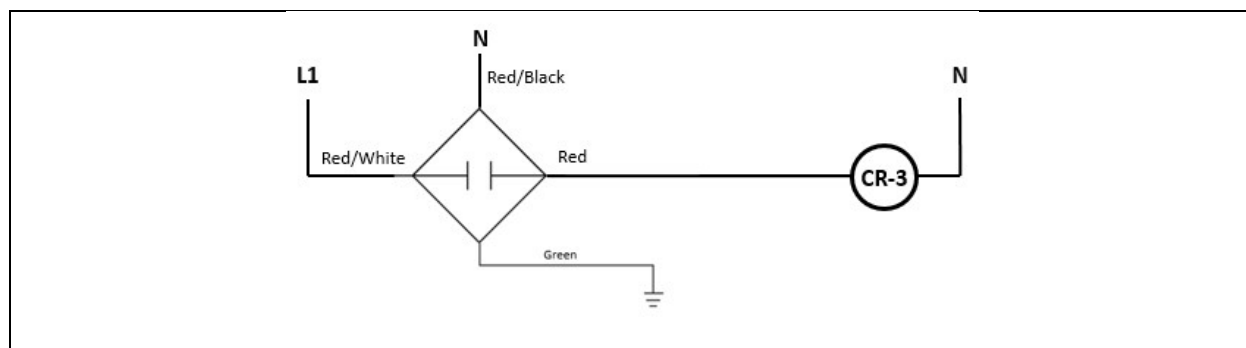

Figure 7: The wiring diagram for the photo-electric switch
- Wire the circuit found in Figure 7 on the NSCC wiring boards. Verify the wiring diagram with the wiring diagram from the cut sheet. Wire the coil of the ice cube relay to the output of the photo-electric switch.